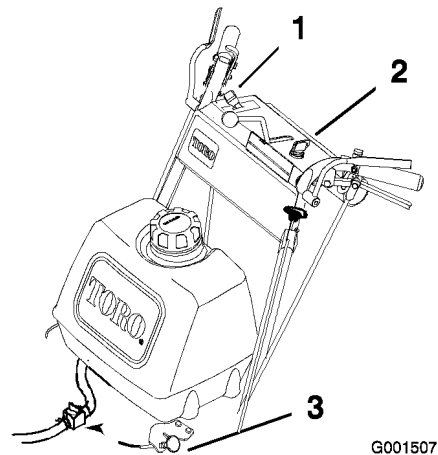

Figure 8
11. Push the choke to off as the engine warms up (Figure 8).
1. Move the throttle lever to slow (Figure 8).